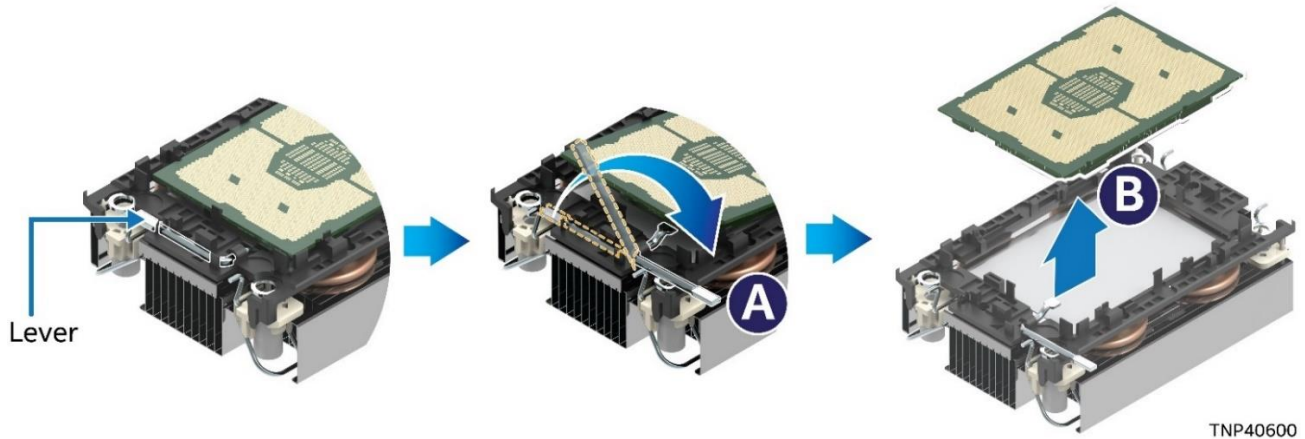

Figure 98. PHM Disassembly
9. Carefully dis-assemble the PHM (see Figure 98).